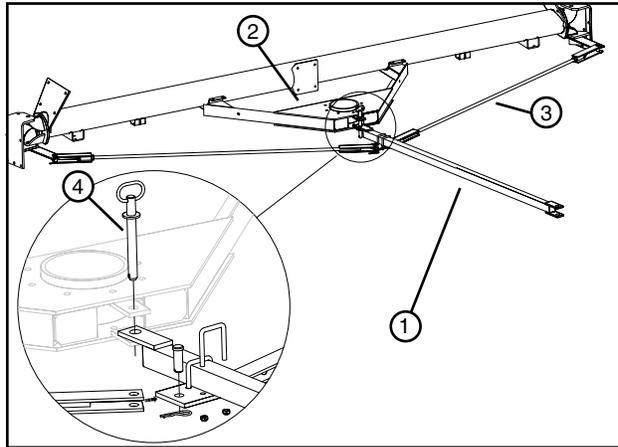

Figure 84-1 1. Tongue 2. Hose Pull frame 3. Tie Rod 4. Torque Pin
1. Attach tongue with tie rods to the hose pull frame with torque pin. See Figure 84-1.